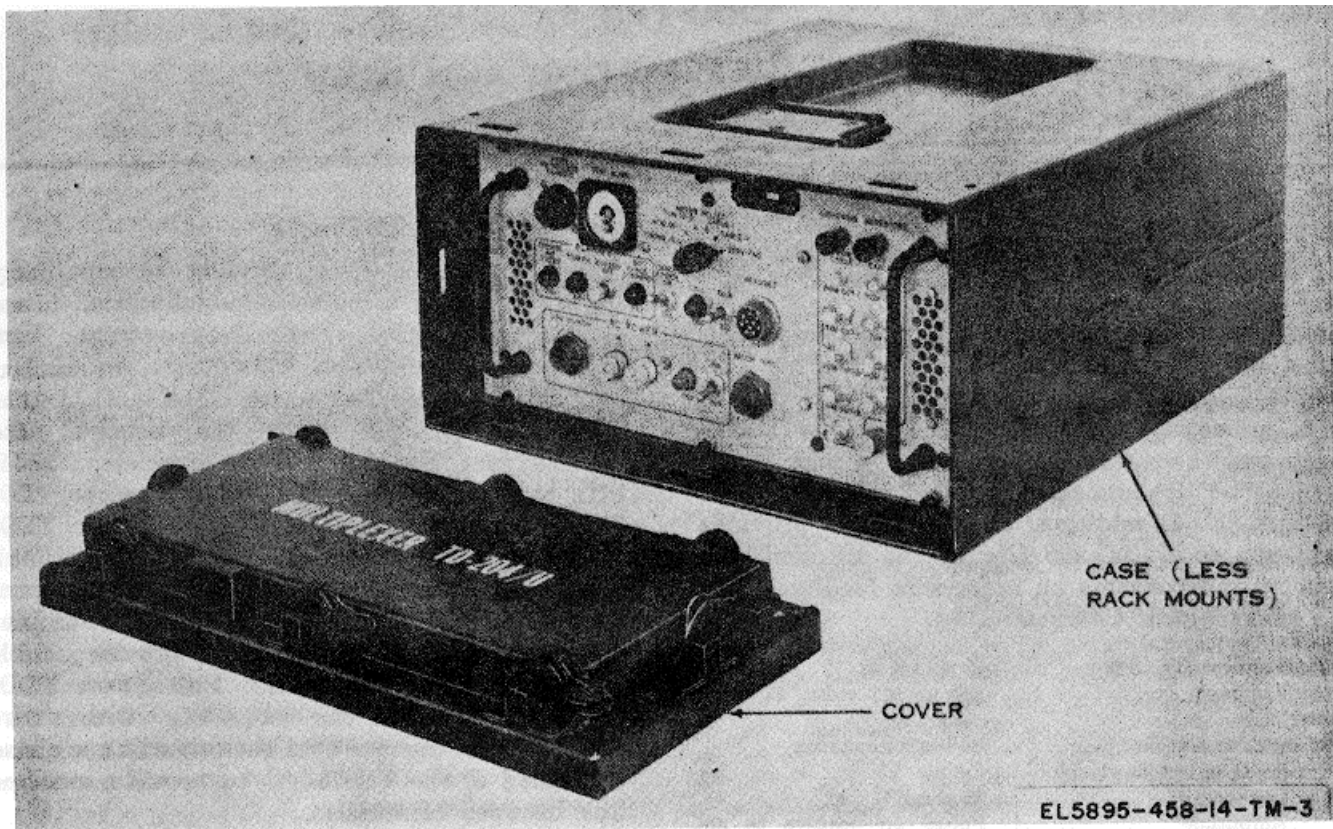

Figure 3-1. Multiplexer TD-204/U.
a. *Use.* Multiplexer TD-204/U (fig. 3-1) is a 12/24/48-channel pcm cable transmission interface unit. Its transmit section accepts tdm pcm output signals from a TD-660/U or TD 660A/G or from another TD-204/U or TD-7564/G, and processes these signals for cable transmission. The receive section accepts a pcm signal from the transmission cable, processes and retimes it. In addition, the TD-204/U provides for up to 39 TD-206/G's in the transmission cable, and contains an order-wire facility.